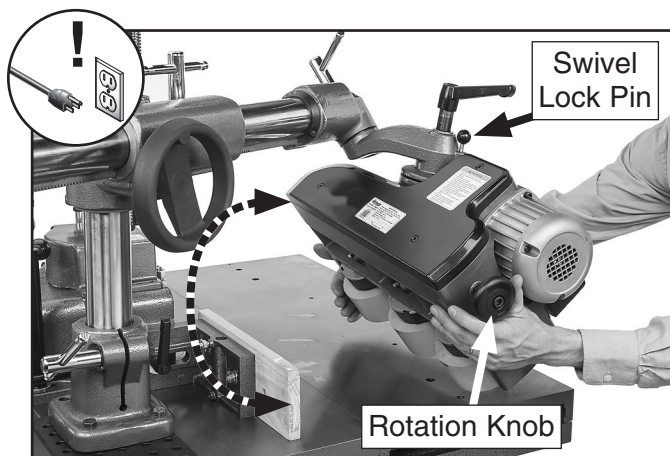

Figure 25. Example of rotating power feeder for vertical or incline feeding.
5. While holding onto rotation knob with one hand, disengage swivel lock pin, rotate power feeder clockwise (flip it upside down) so it is oriented as shown in **Figure 25**, then move it back over table and up against fence.